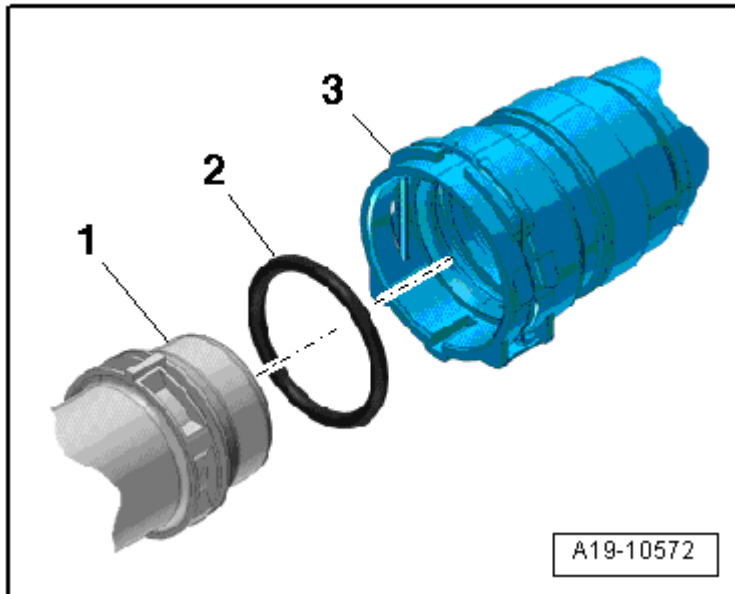

Fig. 28: Connecting Coolant Hose To Coupling
- Connect to the radiator, refer to **Fig. 28**